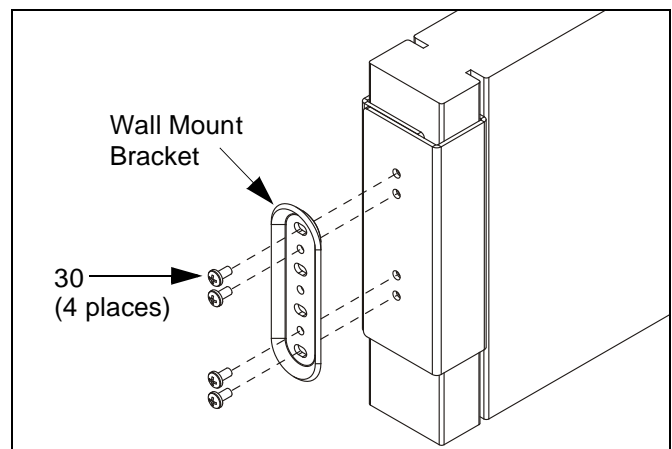

Figure 3: Install Wall Mount Bracket
3. Using Phillips screwdriver, install screws (30) through wall mount bracket and bracket (20) into threaded holes of bracket (10) (See Figure 3). Tighten securely.